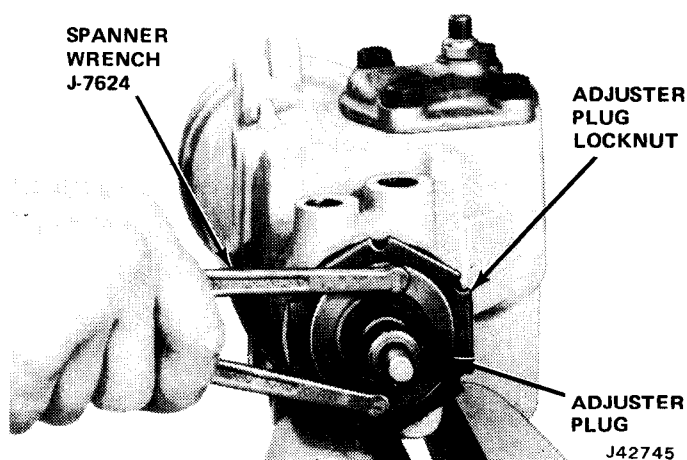

Fig. 11-74 Adjuster Plug Removal or Installation
- (1) Loosen adjuster plug locknut using Wrench J-25194.
- (2) Loosen adjuster plug assembly using Tool J-7624 (fig. 11-74). Prevent stub shaft from turning and unthread adjuster plug assembly.